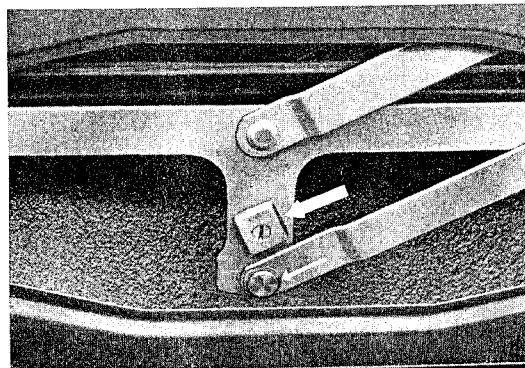

Fig. 39
4. Adjust the window rails so that the window is secured but free to move. Adjust the level position of the window by adjusting the position of the elevating mechanism (thin arrow Fig. 39).
6. The bottom of the window travel is regulated by a stop on the window carrier (large arrow Fig. 39).